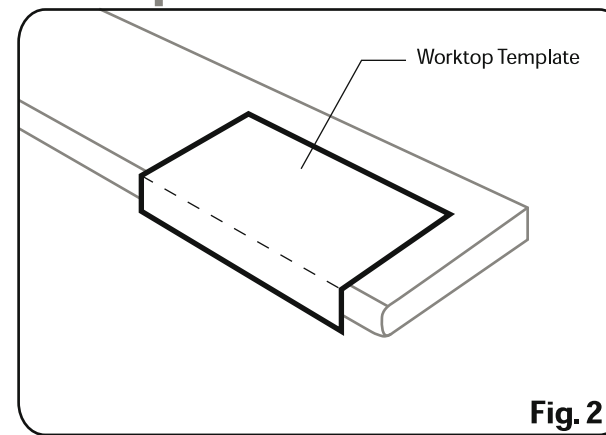

Fig. 2
5. Lay the cut out Worktop Template on the worktop aligning the centre line with the centre of the base unit marked in the previous step (See Fig. 2).